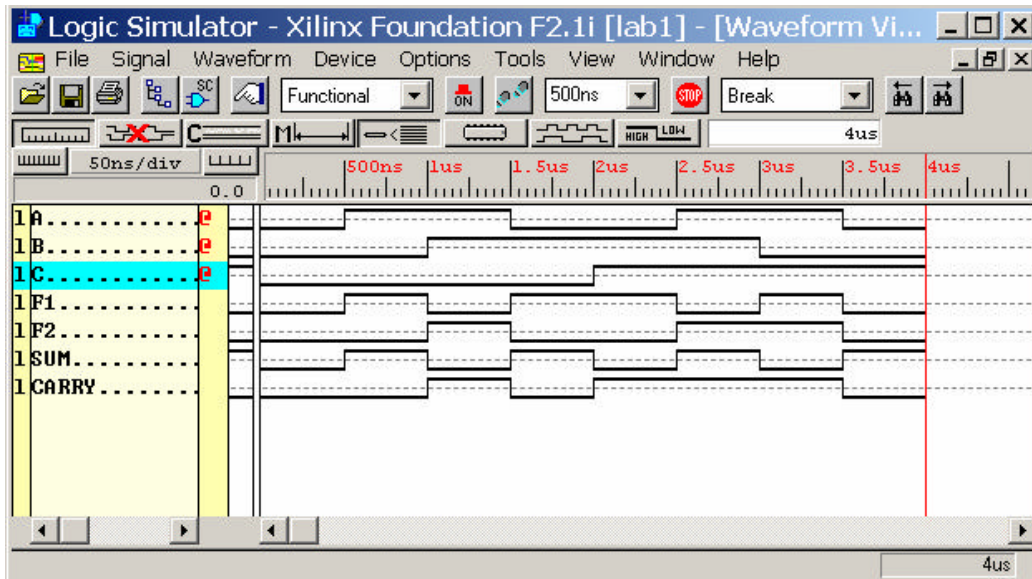

Figure 4.2
- Simulate the design in steps as shown in Figure 4.2